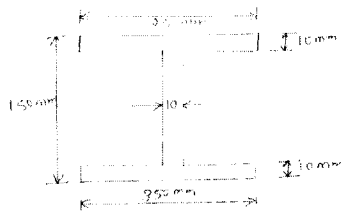

Fig. Q8 (b)
- b. Determine Euler's crippling load for an I-section column as shown in Fig. Q8 (b), having a length of 6 m which is used as a strut with both ends fixed. Take $E = 2 \times 10^5 \text{ N/mm}^2$, Factor of safety = 3. (14 Marks)